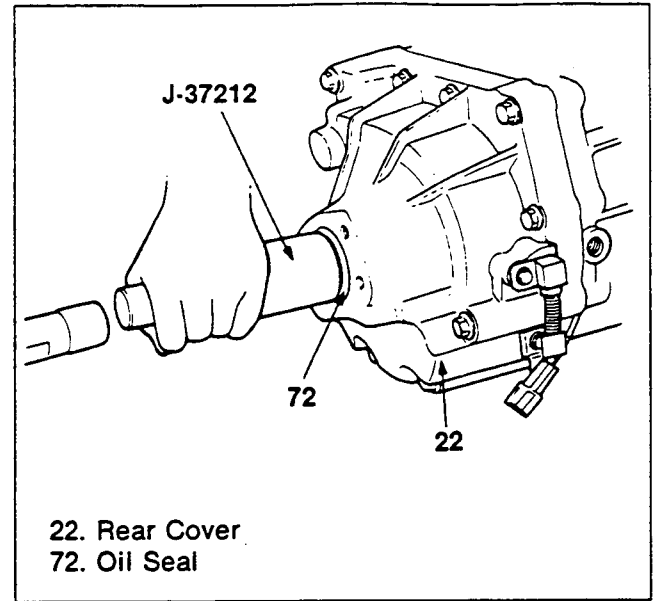

Figure 250. Rear Oil Seal Installation
6. Install oil seal to the rear cover using a installer (figure 250).